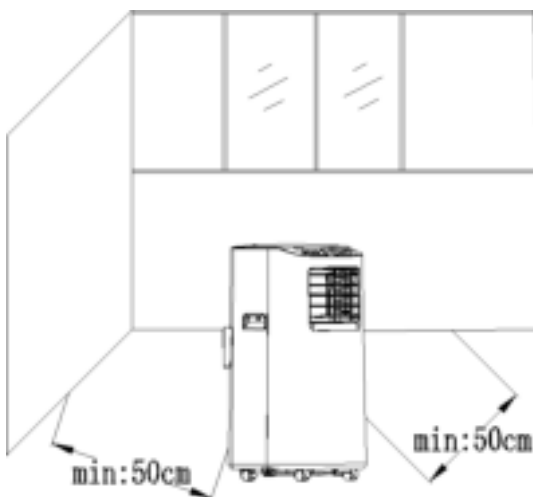

Figure4
- Move the product with installed heat pipe and fittings before the window, and the distance between the body and walls or other objects shall be least 50 cm (as shown in Fig.4).